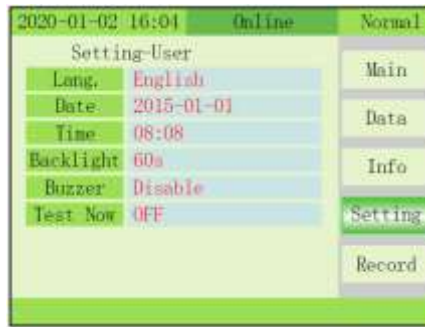

Fig. 4-9 Setting menu
- 8) SETTING-User: Press  key for short time to move to the setting page, then press OFF key (Fig. 4-9) to enter setting-user page. Press  key to change item, press OFF key to enter item and press  key to change value, press OFF key confirm the setting.